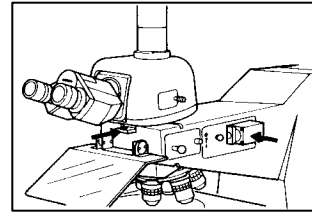

Figure 1-15
- 7) Insert the motorized episcopic polarizer DIC and analyzer in the optical path. (Figure 1-15)